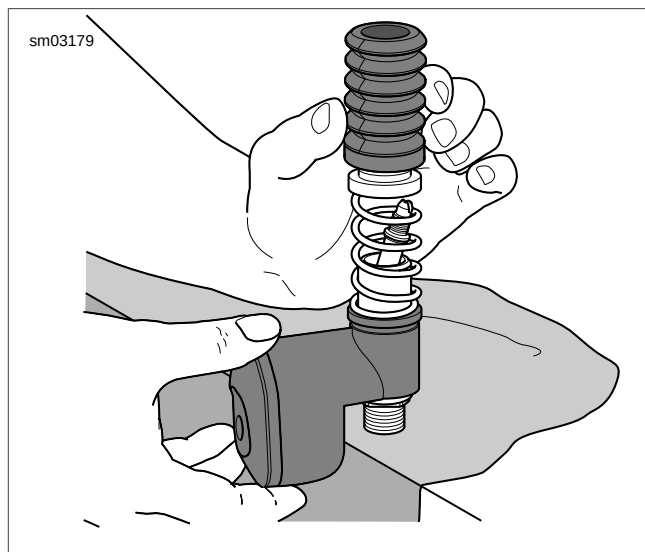

Figure 2-59. Master Cylinder Assembly
8. Wipe bore of reservoir (18) adapter with DOT 4 BRAKE FLUID.
9. Insert cartridge body (2) into reservoir adapter. Align tab on adapter with slot on threaded end of cartridge. Use hand pressure only. Cartridge body is fully installed when reservoir adapter contacts large retaining ring.
10. See Figure 2-59. Stand master cylinder assembly upright on banjo sealing surface. For best results, suspend reservoir over edge of table. Be sure to lay down a clean shop cloth to protect the sealing surface from damage.